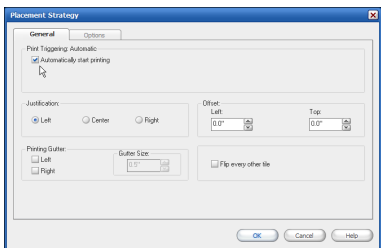

Figure 4—Placement Strategy
3. Click **Setup**. This opens the Placement Strategy dialog (see Figure 4).
4. *Click **Setup**. This opens the Placement Strategy dialog (see Figure 4).*